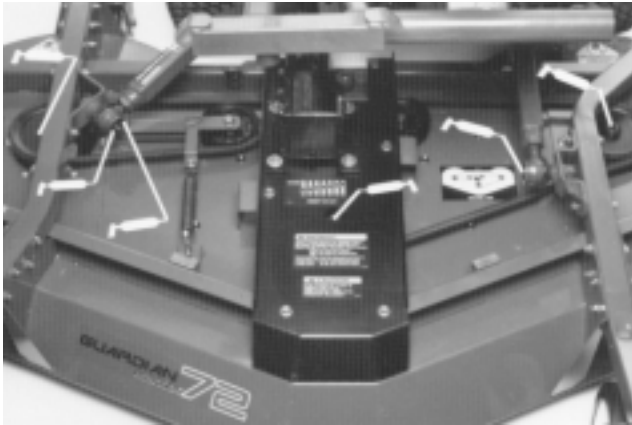

Figure 16
- blade spindle bearings (Fig. 16)
- idler arm pivot (Fig. 16)
- right and left push arm ball joints (Fig. 16).